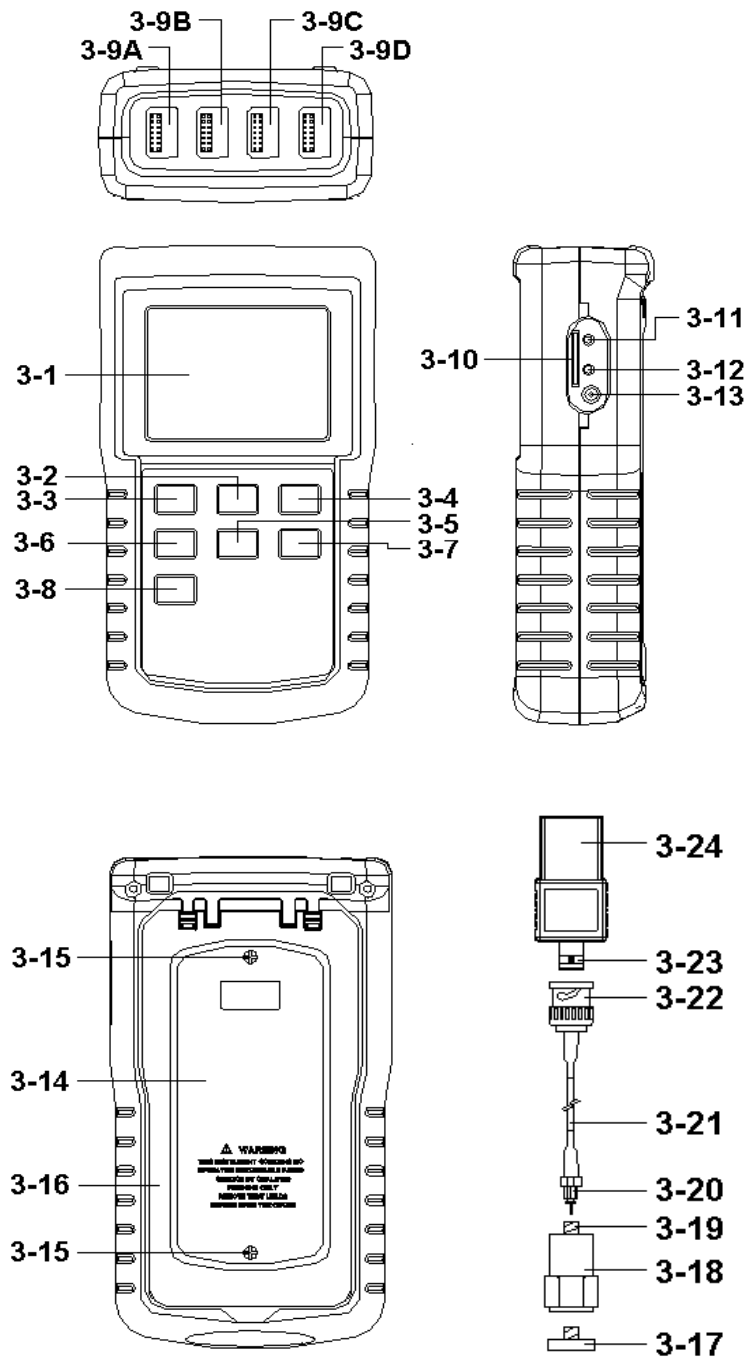
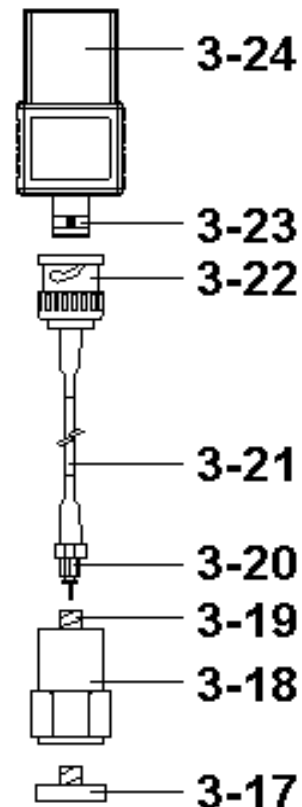

Fig. 1
Fig. 2
Zero Button	Under Acceleration (RMS) measurement, sensor motionless , press two Buttons (3-5, 3-7, Fig. 1) >3 seconds.
Max. Hold Reset Button	Under Max. hold measurement, press two Buttons (3-5, 3-7, Fig. 1) >3 seconds.
1. Vibration Sensor, 3-18, Fig 2
2. Sensor Cable, 3-21, Fig. 2
- 3 VB-83 module, 3-24, Fig. 2
* Plug in the " Cable BNC Plug " (3-22, Fig. 2) to the " BNC Socket of VB-83 module " (3-23, Fig. 2).
* Plug in the " Mini plug of cable " (3-20, Fig. 2) to the " Input socket of vibration sensor " (3-19, Fig. 2).
Plug in the " Plug of VB-83 module " (3-24, Fig. 2) to the " CH1 VB-83 Input Socket " (3-9A, Fig. 1). If you have extra vibration sensor set, then Plug in to the " CH2/CH3/CH4 VB-83 Input Socket " (3-9B, 3-9C, 3-9D Fig. 1)
When change the VB-83, it is not necessary to make calibration again due to the vibration detail calibration information already save into the " VB-83 module " (3-24, Fig. 2)*
2) 1) Power on the meter by pressing the " Power button " (3-2, Fig. 1) > 3 seconds continuously.
The " Display " (3-1, Fig. 1) will show the 4 channels vibration value (CH1, CH2, CH3, CH4) at the same time. If some channels not plug in the VB-83 Vibration set, then the corresponding channel Display will show " - - - - ".
- * If the surface material of measuring article is the ferrous material, connect " Vibration sensor " (3-18, Fig. 2) with the " Magnetic base " (3-17, Fig. 2). Put the whole unit (Vibration sensor & Magnetic base) to the surface of measuring article.*
- * Please do not use the finger or hand to touch the " Sensor cable " (3-21, Fig. 1).*
Select the desired display unit by pressing the " ACC/VEL/DISP Button " (3-5, Fig. 1) > 3 seconds (not release the button), the Display will show the following units according Acceleration / Velocity / Displacement in sequence.
Select the desired function (RMS, Peak, Max HOLD) by pressing the " Function Button " (3-7, Fig. 1). continuously (not release the button), until the Display will show the desiring function (RMS, Max HOLD, Peak) , then release the " Function Button " (3-7, Fig. 1).
- 1)Vibration sensor set, VB-83 is ready, connect the " Plug of VB-83 module " (3-24, Fig. 1) to the " CH1, CH2, CH3, CH4 VB-83 Input Socket " (3-9A, B, C, D, Fig. 1).
- 4)Under Acc./Velocity/Displacement measurement if press the " ▲ Button " (3-5, Fig. 1) and " ▼ Button " (3-7, Fig. 1) together > 3 seconds, then the " CH1 " symbol will flasing.
** Press the " SET Button " (3-6, Fig. 1) to select the channel no. (CH2, CH3, CH4), after the exact channel is selected, the channel no. will flashing .*
Press " Enter Button " (3-8, Fig. 1) to let the display reach zero value according the selected channle no. (flashing).
Under execute the Max Hold function if press the " ▲ Button " (3-5, Fig. 1) and " ▼ Button " (3-7, Fig. 1) together > 3 seconds, then the " CH1 " symbol will flasing.
Press " Enter Button " (3-8, Fig. 1) to clear the existing Max hold value according the selected channle no. (flashing).
During the measurement, press the " Hold Button " (3-3, Fig. 1) once will hold the measured value & the LCD will display a " HOLD " symbol.
- 1) The data record function records the maximum and minimum readings. Press the " REC Button " (3-4, Fig. 1) once to start the Data Record function and there will be a " REC " symbol on the display.